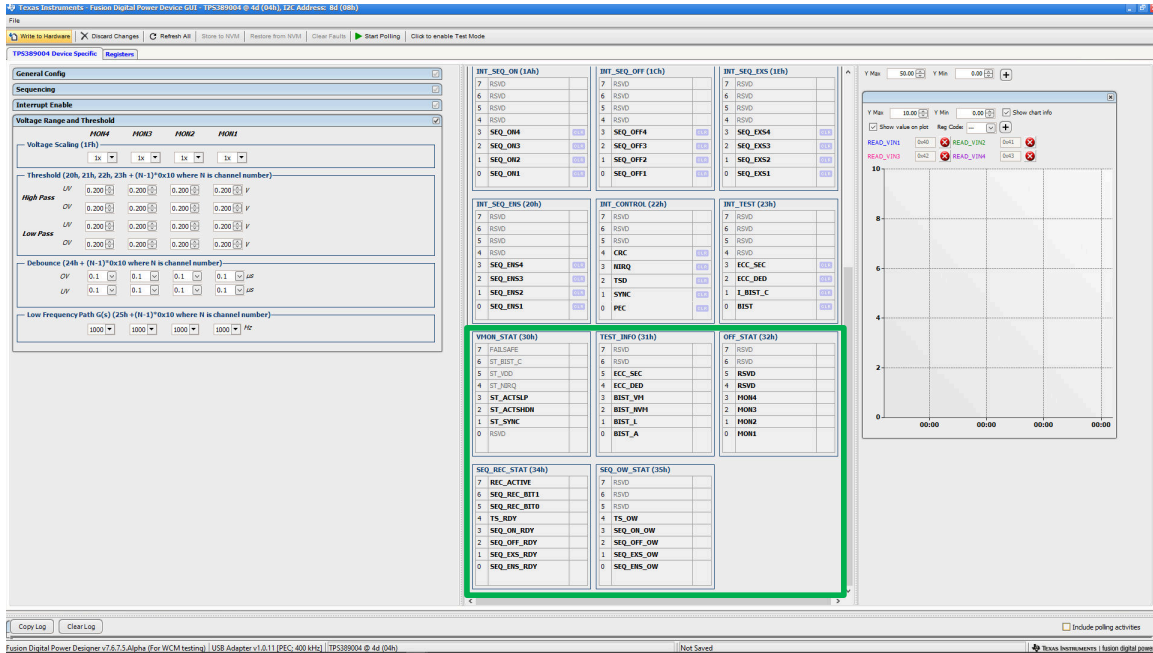

Figure 4-15. Fusion Digital Power Device GUI - TPS389006Q1EVM (screenshot #3)
8. Once the EVM is discovered and **Click to Configure** has been selected, the GUI will look like Figure 4-13, Figure 4-14, Figure 4-15.